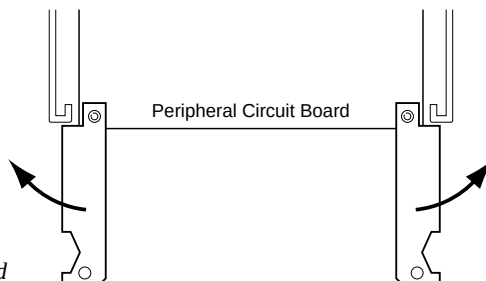

Fig. 2.1.3 Dismounting the Peripheral Circuit Board
- (1) Unfasten the screws located on the left and right sides of the front panel of the ICE by turning them counterclockwise, then remove the front panel.
- (2) Insert the S5U1C63002P board into the ICE along the 2nd guide rails (lower slot) until the tip of the board touches the back of the ICE. If some other board is mounted on the guide rails, remove that board by using the jig supplied with the ICE before you insert the S5U1C63002P board (see Figure 2.1.3).